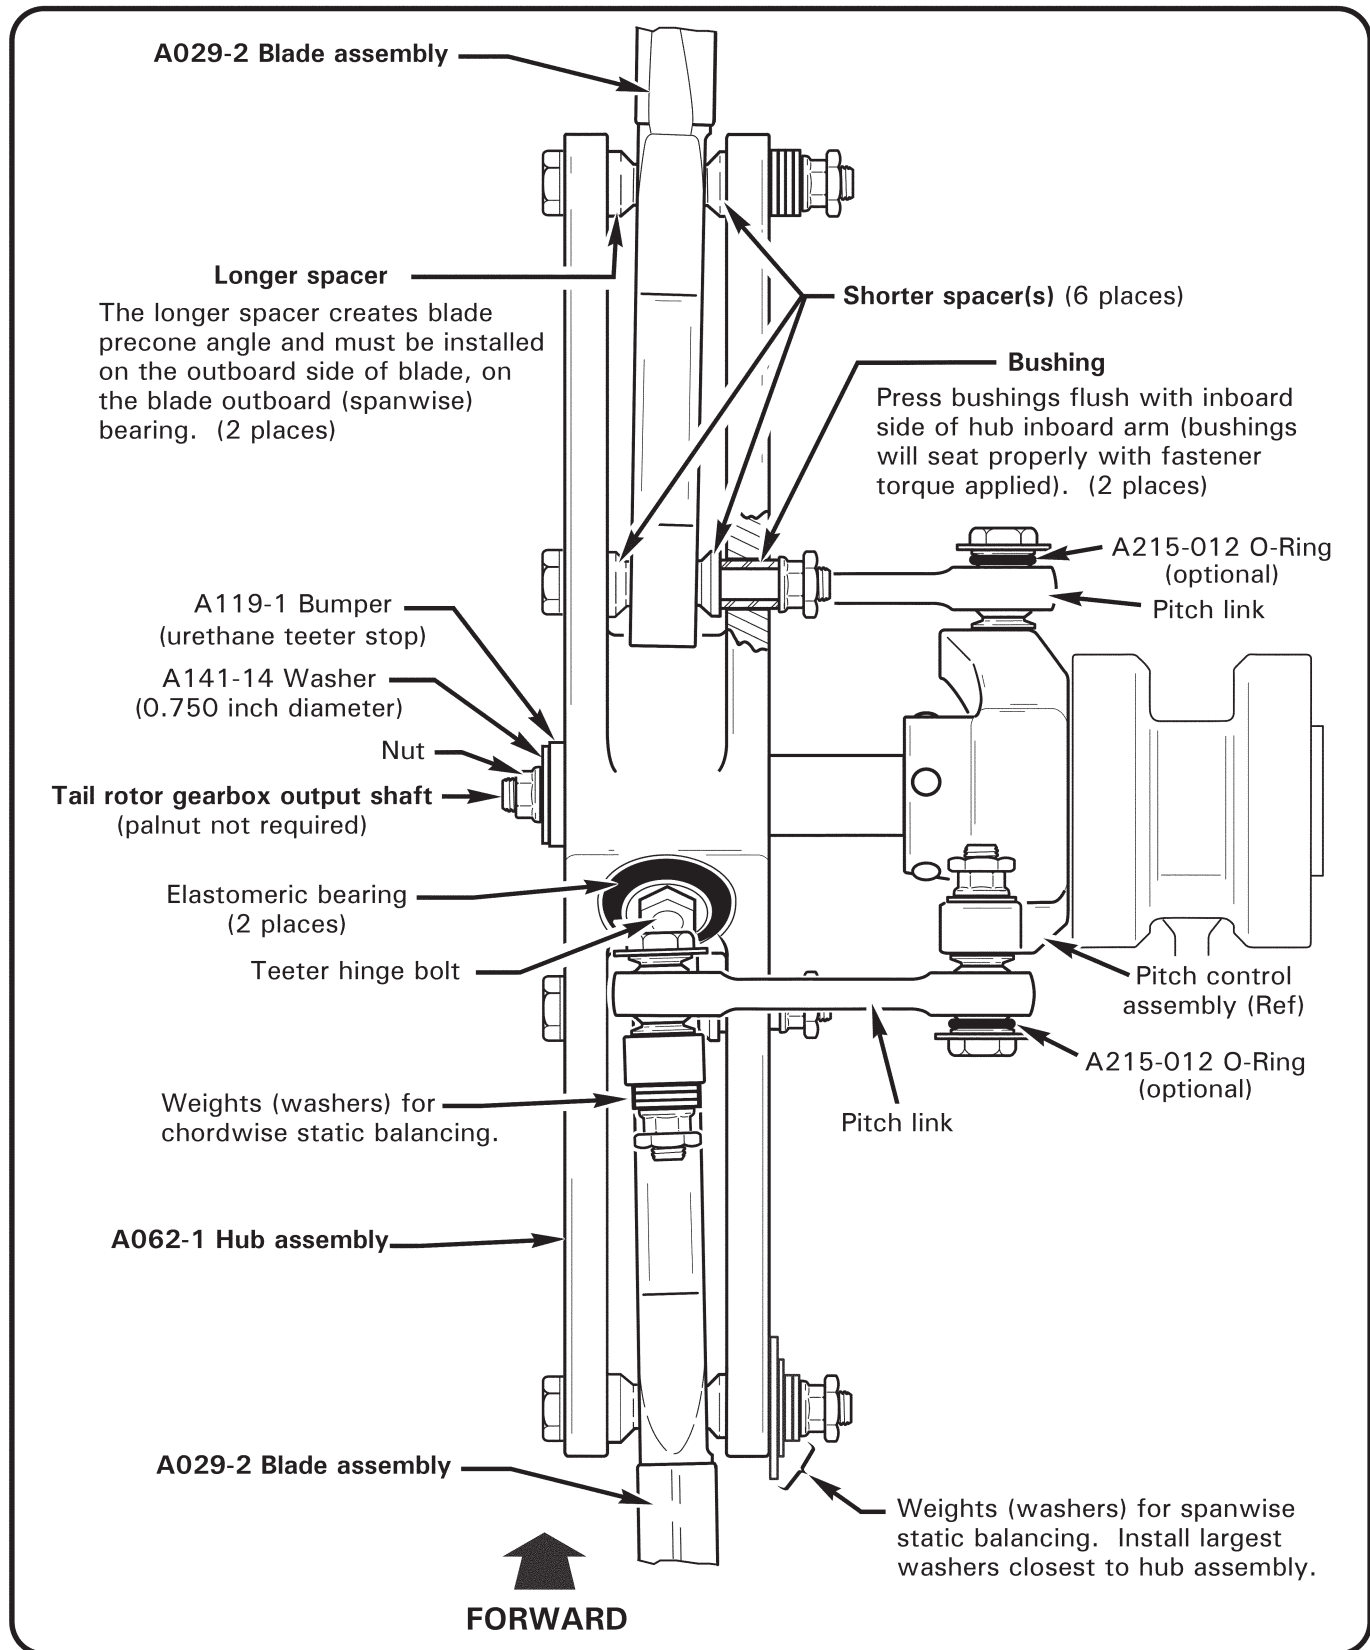

FIGURE 28-1 TAIL ROTOR ASSEMBLY INSTALLATION
1. Refer to Figure 28-1. Tag each pitch link with corresponding blade serial number. Disconnect pitch links from tail rotor blades; keep associated hardware with each link.
3. Refer to Figure 28-1. Position tail rotor assembly on tail rotor gearbox output shaft, matching tail rotor blades to corresponding pitch links. Verify tail rotor is installed for counter-clockwise rotation when viewed from left side of aircraft.
2. Refer to Figure 28-1. Remove hardware securing A029-2 blade assemblies to A062-1 hub assembly. Remove blades, spacers, and hardware; do not remove A138-1 bushings unless required.
1. Refer to Figure 28-1. If removed, apply light coat of approved primer per § 23-75 to outer surface of A138-1 bushings; while primer is wet, press bushings flush with inboard side of hub inboard arm (bushings will seat properly with fastener torque applied).